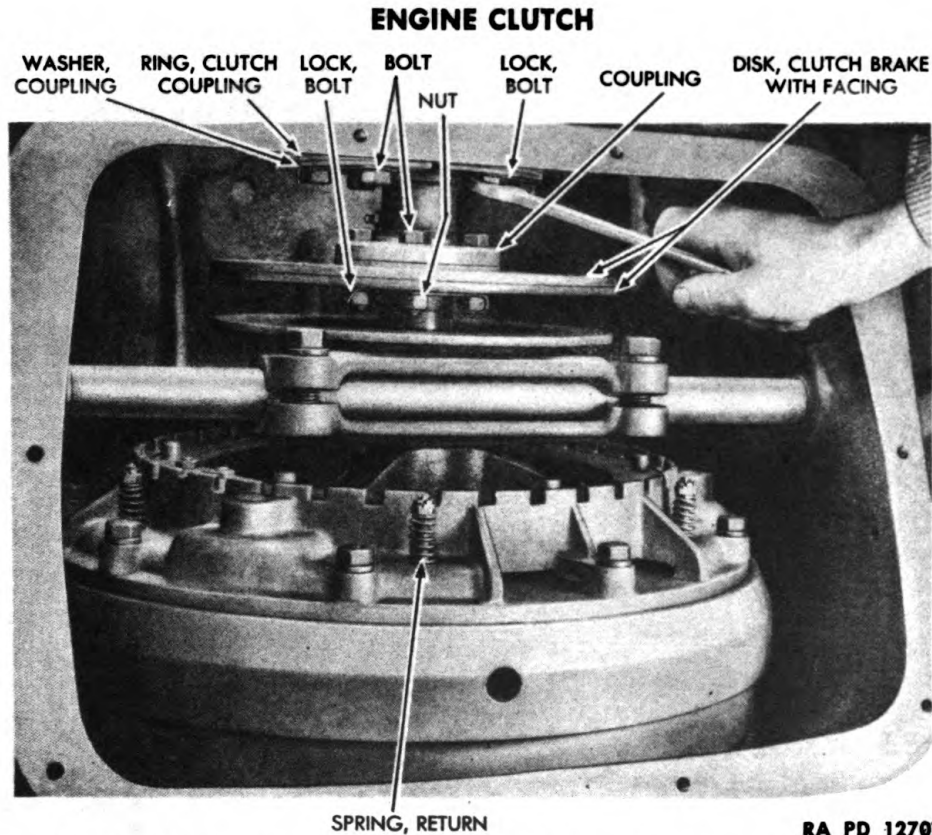

Figure 13 – Disconnecting Engine Clutch Ring from Transmission Flange
e. **Clutch Return Springs.** Inspect for broken return spring (fig. 13). Broken springs will let the pressure plate drag, causing the transmission to operate when clutch is disengaged.
(10) DISCONNECT CLUTCH RING FROM TRANSMISSION FLANGE (fig. 13).
(11) DISCONNECT CLUTCH COUPLING FROM CLUTCH SHAFT AND CLUTCH DISK BRAKE WITH FACING (fig. 13).